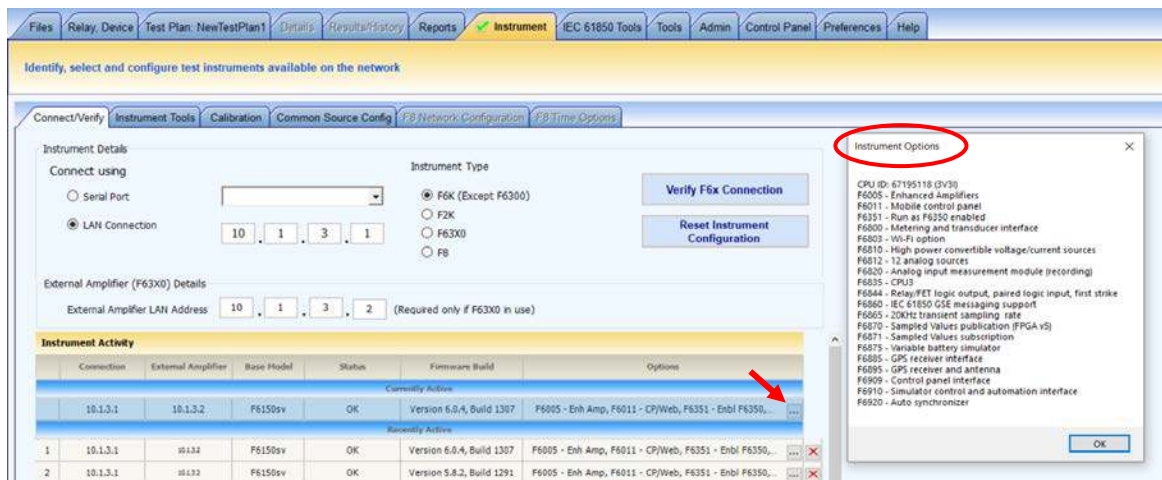

Figure 12. F6150 CPU3 instrument options after update
- 36) Click the box with the ellipsis (three dots) to view the instrument options (see Figure 12)